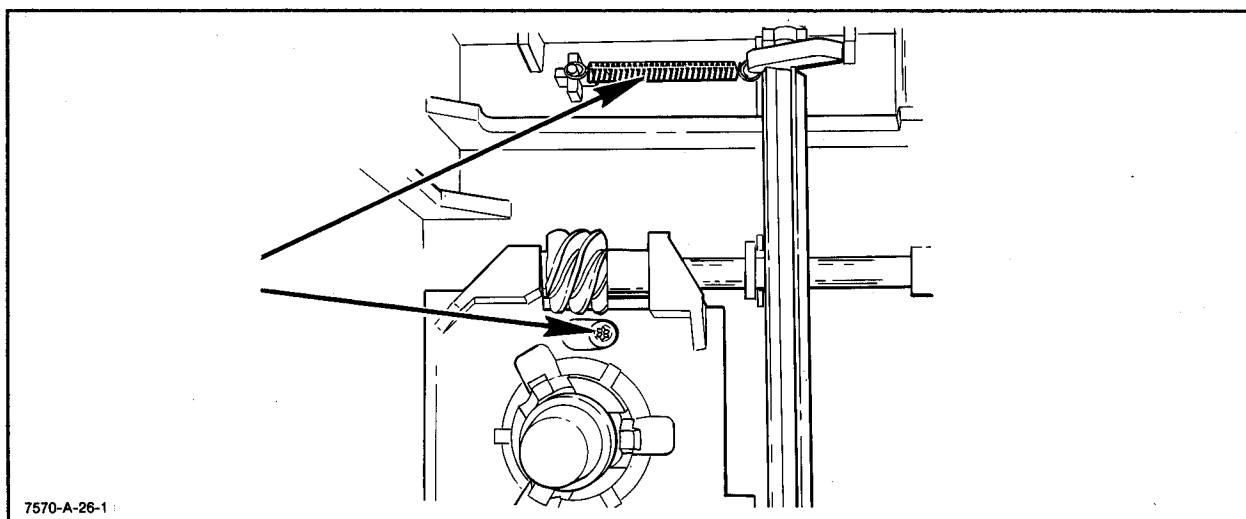

Figure 6-21. Carousel Mount
- e. Remove the engaging lever spring. See Figure 6-21.
- f. Remove the self-tapping screw holding the carousel mount to the chassis. See Figure 6-21.